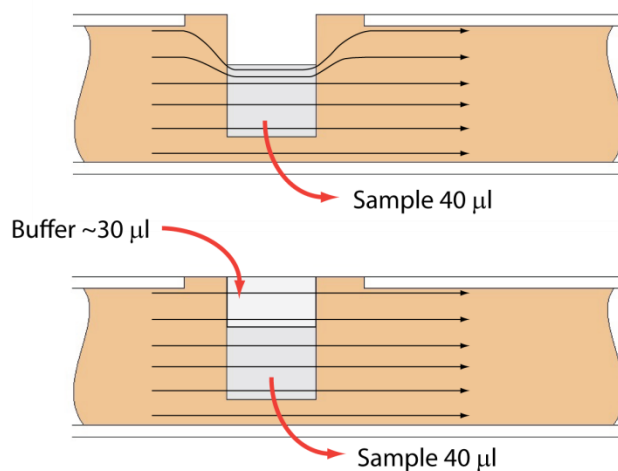

Figure 11.1. An illustration of the electrophoretic effect on a DNA sample when a sample well is not completely filled.
Proper sample loading is critical for best performance of Pippin Prep cassettes. For maximum reproducibility and accuracy, the sample should travel through the central section of the gel column, and should be bounded on all four sides by uniformly conductive media – either gel or electrophoresis buffer. The goal of the loading procedure is to produce this geometry in the sample loading well, as illustrated in the bottom section of **Figure 11.1**. Properly prepared samples will be 40 μl in total volume consisting of 30 μl of DNA mixed with 10 μl of Pippin Prep loading solution. The loading solution contains concentrated Ficoll as a densifying agent (see following chapter on Sample Preparation for details), and therefore the samples will sink and form a high density layer beneath the electrophoresis buffer when pipetted slowly into the sample wells. If there is insufficient conductive buffer over the sample, the electrophoretic forces lines will curve upward as the sample exits the well (see **Figure 11.1**, upper section), and the sample will be drawn to the top of the cassette where it can travel out of the gel into the gap between the gel column and the plastic top of the channel. Sample moving in this gap will travel at a different rate than the sample inside the gel column, and will lead to elution of undesired size fractions in the eluted material. In such cases, the contaminating DNA will usually (but not always) be higher in molecular weight than the selected DNA.
2. **Remove 40 μ l of buffer from the first sample well, and load 40 μ l of sample (or external marker) into that well.** Take care not to pierce the agarose with the pipette tip. There is gel on all sides and bottom of the sample well. In addition, there is an agarose “chimney” surrounding the top of the sample well that protrudes up through the cassette cover (see **Figure 11.1**, previous page). When removing buffer, some users find it useful to immerse the pipette tip just below the surface of the buffer and follow the liquid level down with the tip as the buffer is removed. When buffer removal is completed, there will be ~30 μ l of buffer left in the well. When adding sample, place tip of pipette just below the surface of the buffer, and follow the liquid level up with the tip as the well fills. Don't be concerned if the sample well slightly overfills. The density of the sample will allow it to sink before it can flow out of the well.